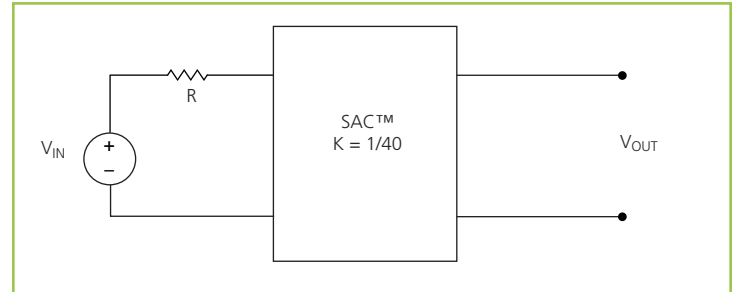

Figure 18 –  $K = 1/40$  Sine Amplitude Converter with series input resistor
The use of DC voltage transformation provides additional interesting attributes. Assuming that  $R_{OUT} = 0 \Omega$  and  $I_Q = 0 A$ , Eq. (3) now becomes Eq. (1) and is essentially load independent, resistor  $R$  is now placed in series with  $V_{IN}$  as shown in Figure 18.
Assuming that  $R = 1 \Omega$ , the effective R as seen from the secondary side is  $0.63 m\Omega$ , with  $K = 1/40$  as shown in Figure 18.